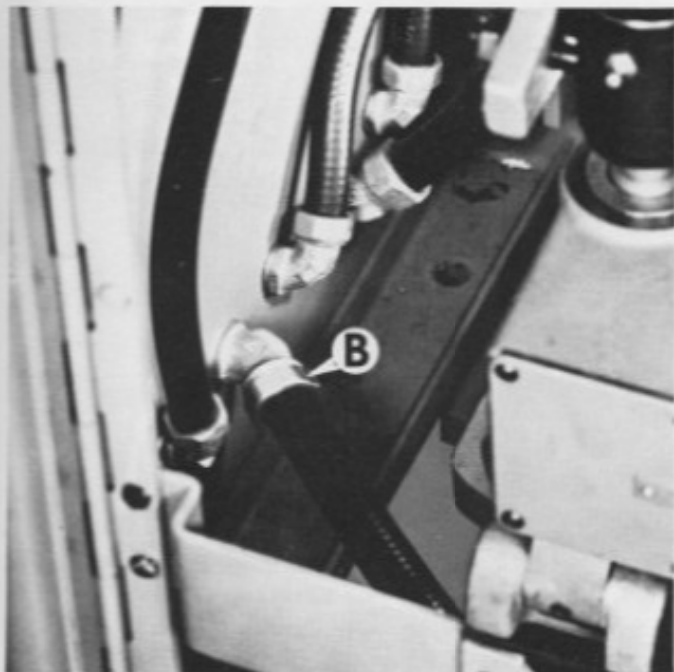

Figure 15
6. Remove nut "B", Figure 15, from conduit connector and pull wires into pedestal.
2. Feed wires through conduit elbow into switch case and replace conduit nut "B", Figure 15.